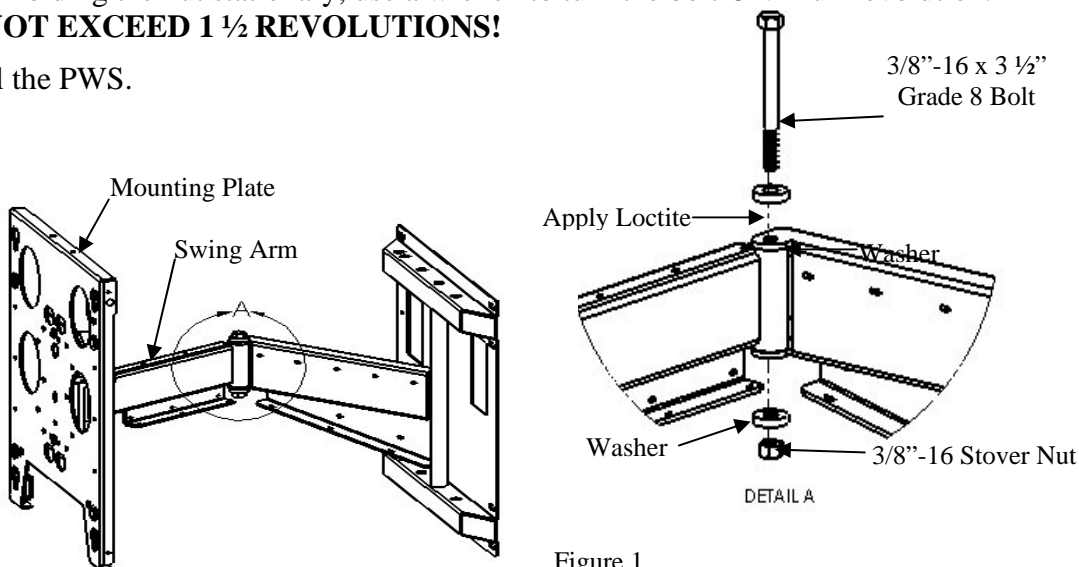

Figure 1.
2. Support the mounting plate and swing arm of the PWS (see Figure 1).
3. Remove the nut, bolt and two washers (see Figure 1, Detail A).